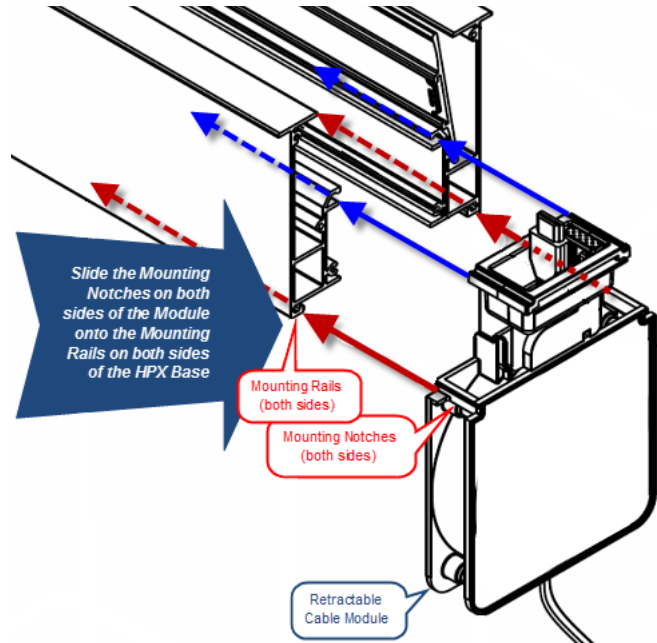

FIG. 7 RETRACTABLE CABLE MODULE - MOUNTING INTO AN HYDRAPORT BASE ASSEMBLY
- Orient the module relative to the HydraPort base assembly so that the Module's faceplate is facing up, towards the mounting surface (FIG. 7).